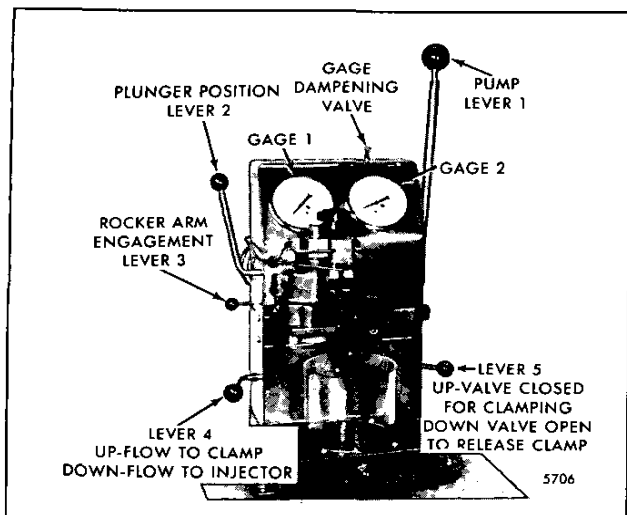

Fig. 3 - Injector in Position for Testing with J 23010-A
1. Refer to (Fig. 3) and position the injector tester levers as follows:
4. Turn the gage damping valve knob (Fig. 3) clockwise to the *closed* position, then open the valve slightly to control the rate of return of the gage hand. This valve is deleted on the current testers.